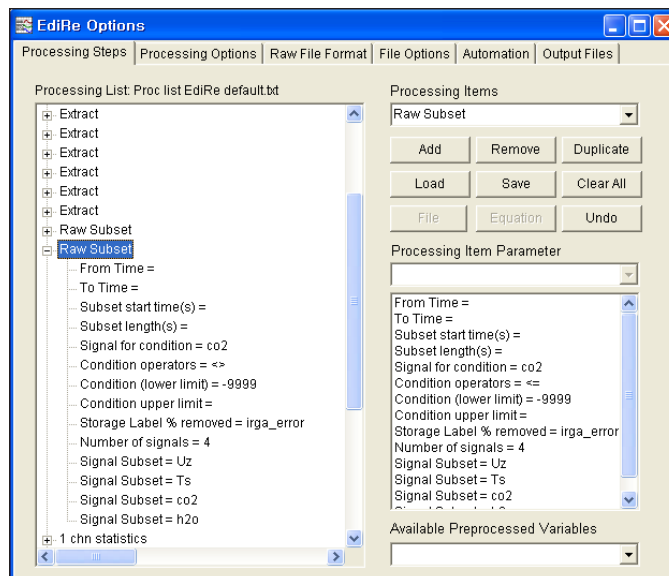

**Figure 24:** A replacement value of -9999 has been selected for NAN and INF.
2. Check the boxes next to NAN test and INF test to activate this feature, then select -9999 as replacement values for NAN and INF as shown in Figure 24.